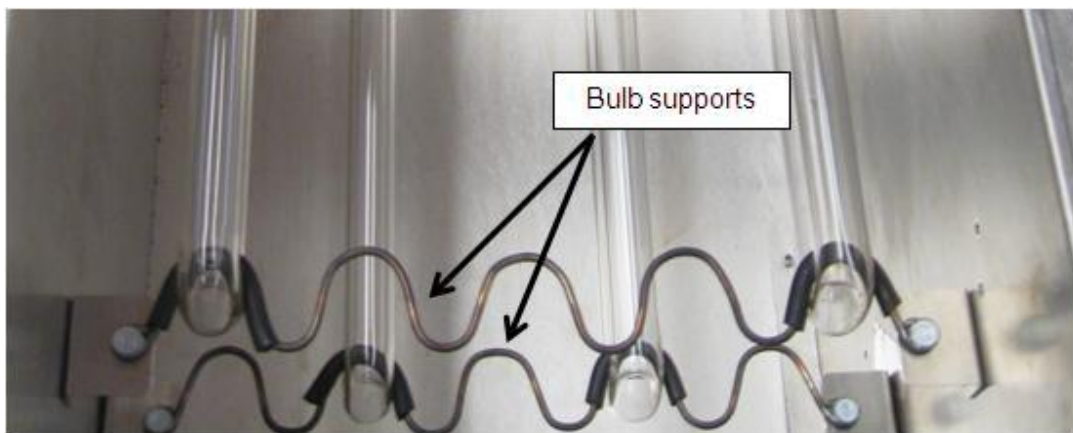

Figure 7: Bluezone® Model 2400 with Cover Removed, Bulb Support Detail
- 6) Release the bulb supports (see Figures 7 and 8)
- ⇒ See Figure 7 for guidance.